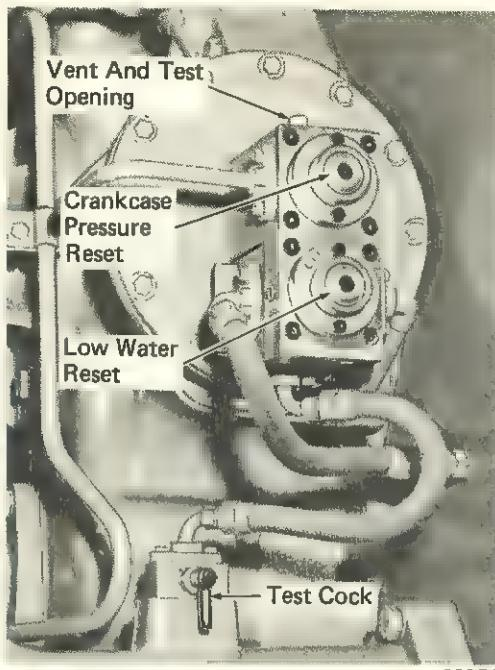

Fig. 3-2 – Low Water And Crankcase
3. Observe that the crankcase (oil pan) pressure and low water detector reset buttons are set (pressed in). If the buttons protrude, press and hold for 5 seconds immediately after engine starts, Fig. 3-2.